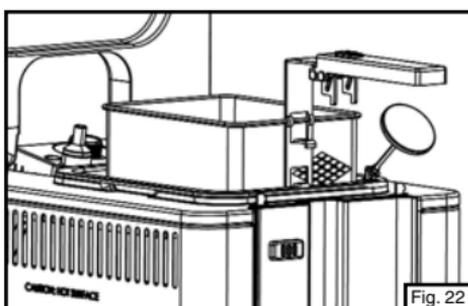

Fig. 22
- Raise the fryer basket and engage it in the upper position above and out of the oil after frying. This will allow excess cooking oil to drain back into the oil reservoir before placing the food on a serving plate (Fig. 22).